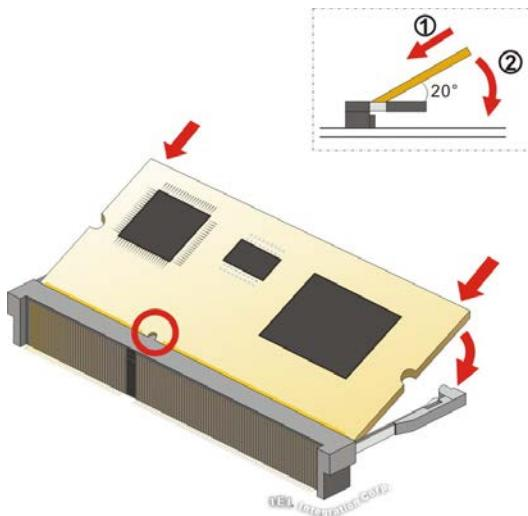

Figure 4-7: iRIS-2400 Module Installation
To install the iRIS-2400 module, please follow the steps below and refer to **Figure 4-7**.
- Step 3: Insert the iRIS-2400 module.** Push the module in at a 20° angle (**Figure 4-7**).
- Step 4: Seat the iRIS-2400 module.** Gently push downwards and the arms clip into place (**Figure 4-7**).